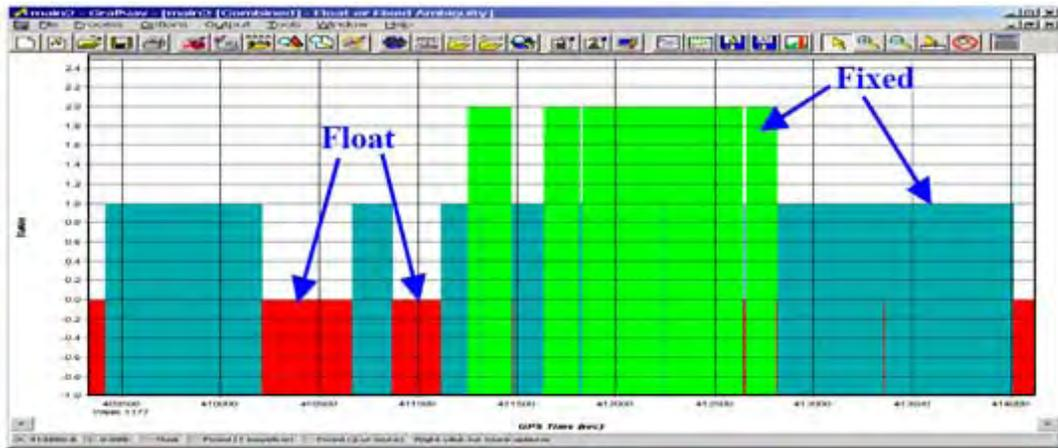

Figure 11: Float or Fixed Ambiguity Status Plot
- *Float or Fixed Ambiguity Status Plot*: This plot shows if the final solution is float or fixed (Figure 11). Fixed integer ambiguities generally have better accuracies (usually < 10cm accuracy). Ideally the plot should show fixed as this indicated an integer ambiguity fix on both forward and reverse directions.